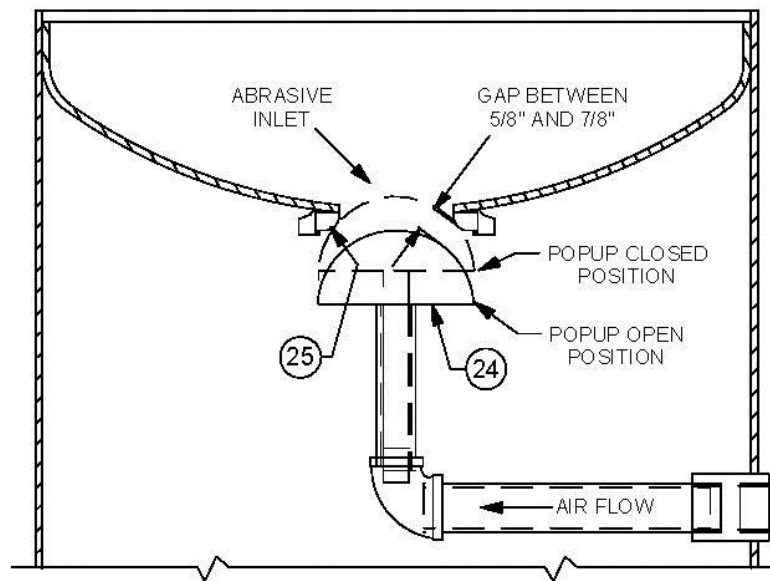

Figure 8.1 – Standard Popup Assembly
Check the pressure vessel internal piping for corrosion, cracks, wear, holes, or any other damage. Repair or replace damaged components. See Figure 8.1 and Section 9.12.
- e) Check the popup gap (distance between the popup surface and the gasket). It should be between 5/8" and 7/8". See Figure 8.1. An excessive gap is created by a vertical nipple that is too short. An excessive gap will expose the top of the vertical nipple to abrasive when the popup closes which could result in premature wear to the popup.